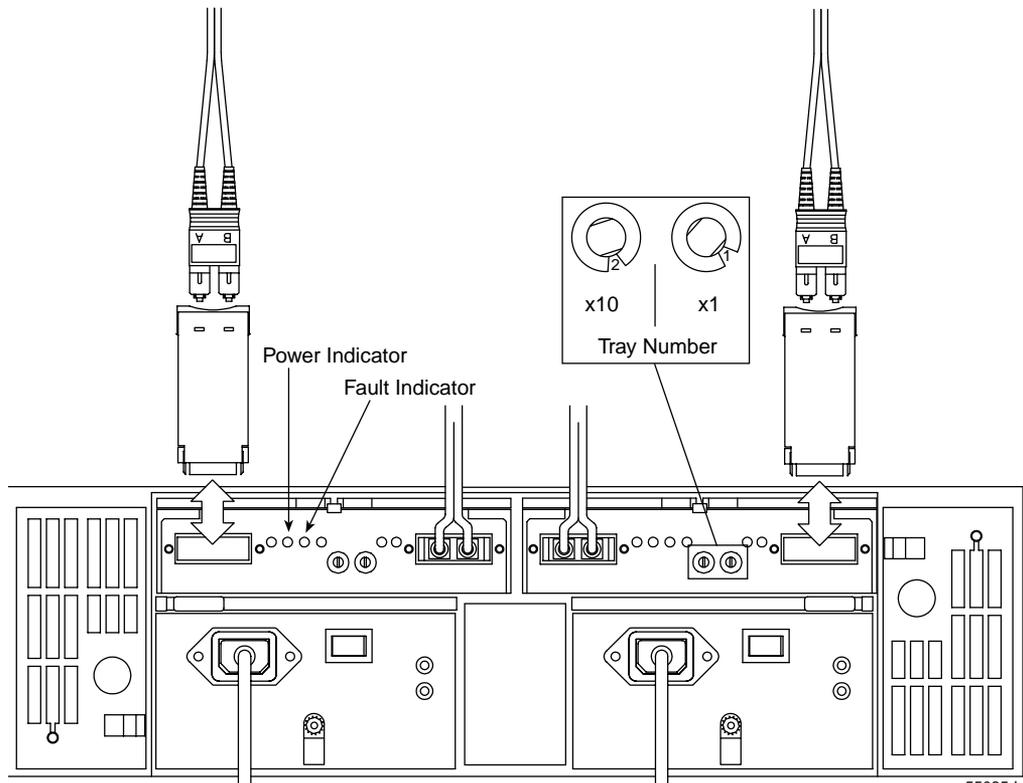

Figure 7-7 Removing GBICs from the Environmental Status Module
5. Remove the Fibre Channel cables from the GBICs in the failed canister, then remove the GBICs (Figure 7-7). Label each cable to ensure that all cables are properly reconnected to the new canister.
6. Set the Enclosure ID Numbers on the new canister exactly as they are set on the failed environmental status module (Figure 7-7).
13. Check the Power and Fault indicators on the new canister (Figure 7-7).